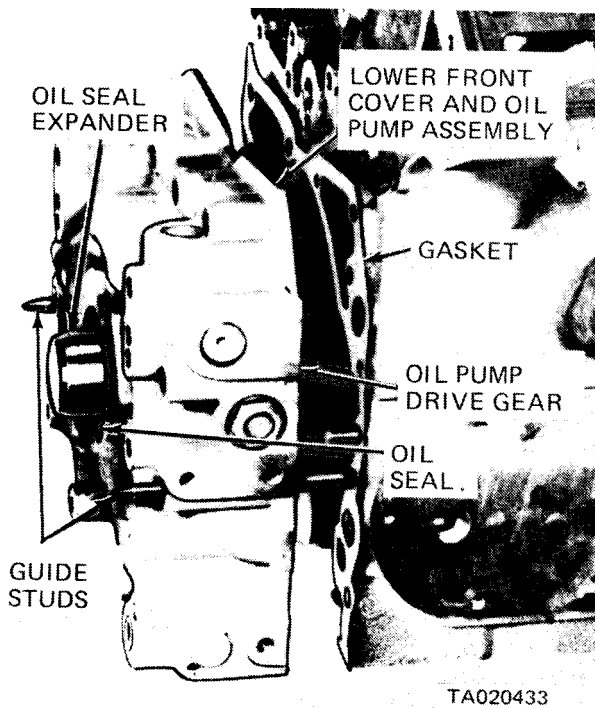

Figure 3-100. Lower front cover and oil pump installation.
(1) Install the lower front cover and oil pump as illustrated in figure 3-100, using a new gasket.